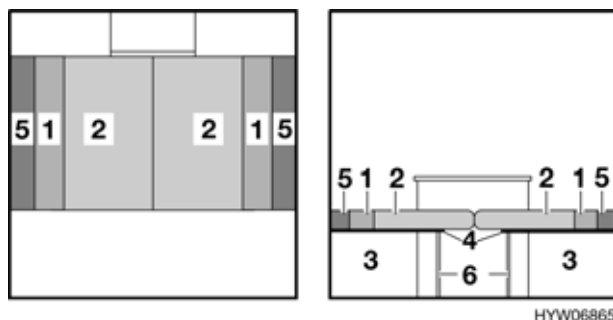

Fig. 93 After conversion into one large bed
- Pull out slatted frame (Fig. 93,4) completely.
- Unfold slatted frame supports (Fig. 93,6).
- Insert the back cushion (Fig. 93,1) and the additional cushion (Fig. 93,5) between the seat cushion (Fig. 93,2) and the exterior wall.